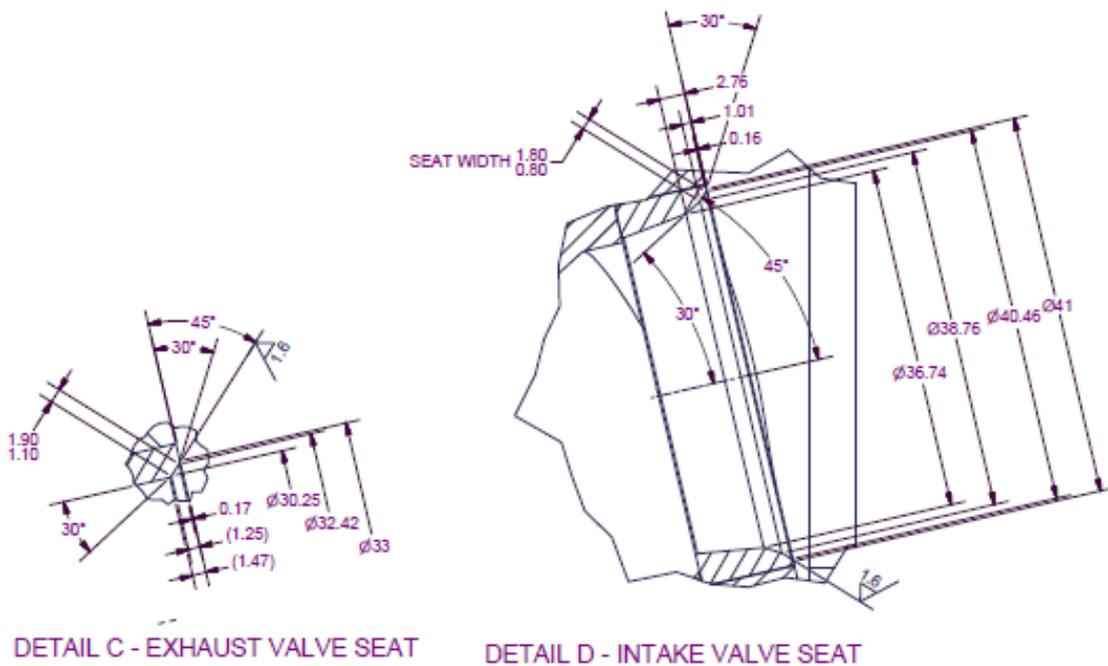

Figure 92 – Valve Seat Geometry
- **Top end overhaul:** apply bearing blue to the valve and rotate the valve against the valve seat using hand pressure only. Remove the valve and inspect for sealing between the valve and the seat – if there is not a uniform seal within the limits shown in Figure 92 then the seats will need to be cut and the valves may also need to be refaced.
- Valve seats are cut at 45 degrees for the actual seat and then under and over cut at 30 and 60 degrees as required to obtain a seat width as shown in Figure 92. In general, try to cut only the minimum amount from each seat in order to extend the life of cylinder heads.